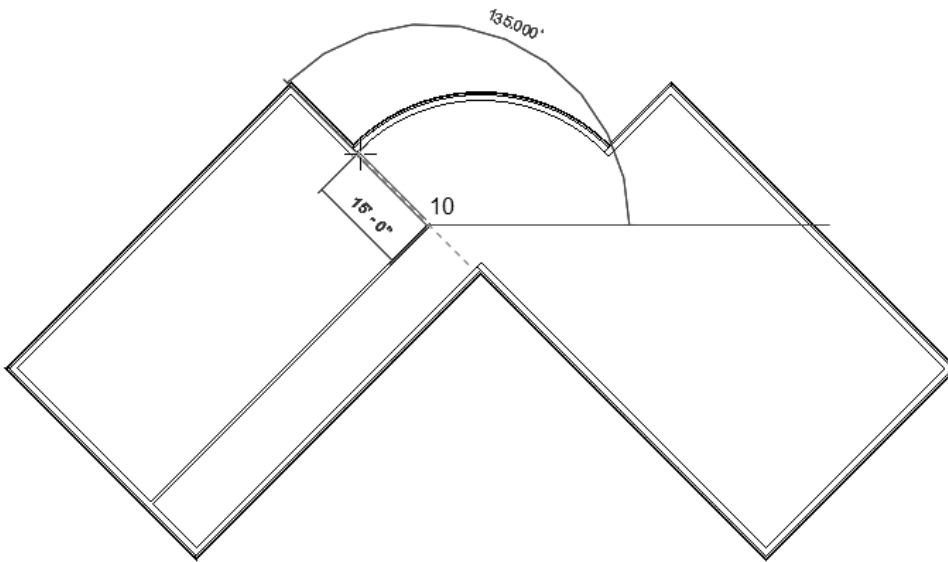

Figure 3-67 Sketching the second interior wall
- Start the next wall from the endpoint of the last wall by clicking on its endpoint. Move the cursor upward towards the left such that it subtends an angle of 135 degrees with the horizontal and it reaches the exterior wall displaying the **Nearest** object snap, as shown in Figure 3-67. Click to specify the endpoint of the wall.
- Similarly, to start the next interior wall, bring the cursor close to the start end of the last created wall (marked as 10), refer to Figure 3-67. Then move the cursor away along the